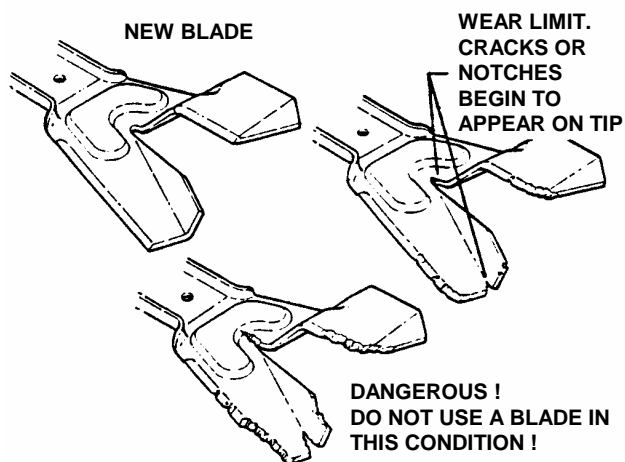

FIGURE 4.2
- 1A. Inspect blade frequently for signs of excessive wear or damage. See Figure 4.2.